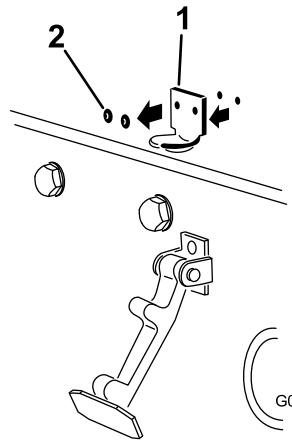

Figure 13
2. Remove the 2 rivets securing the hood-latch bracket to the hood (Figure 13) and remove the hood-latch bracket from the hood.